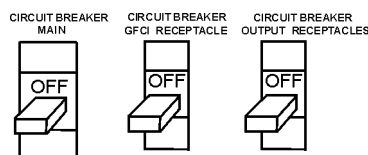

Figure 17. Main, GFCI and Load Circuit Breakers
1. Be sure to disconnect the electrical load and switch the **main**, **load** and **G.F.C.I.** circuit breakers (Figure 17) to the "OFF" position prior to starting the engine.